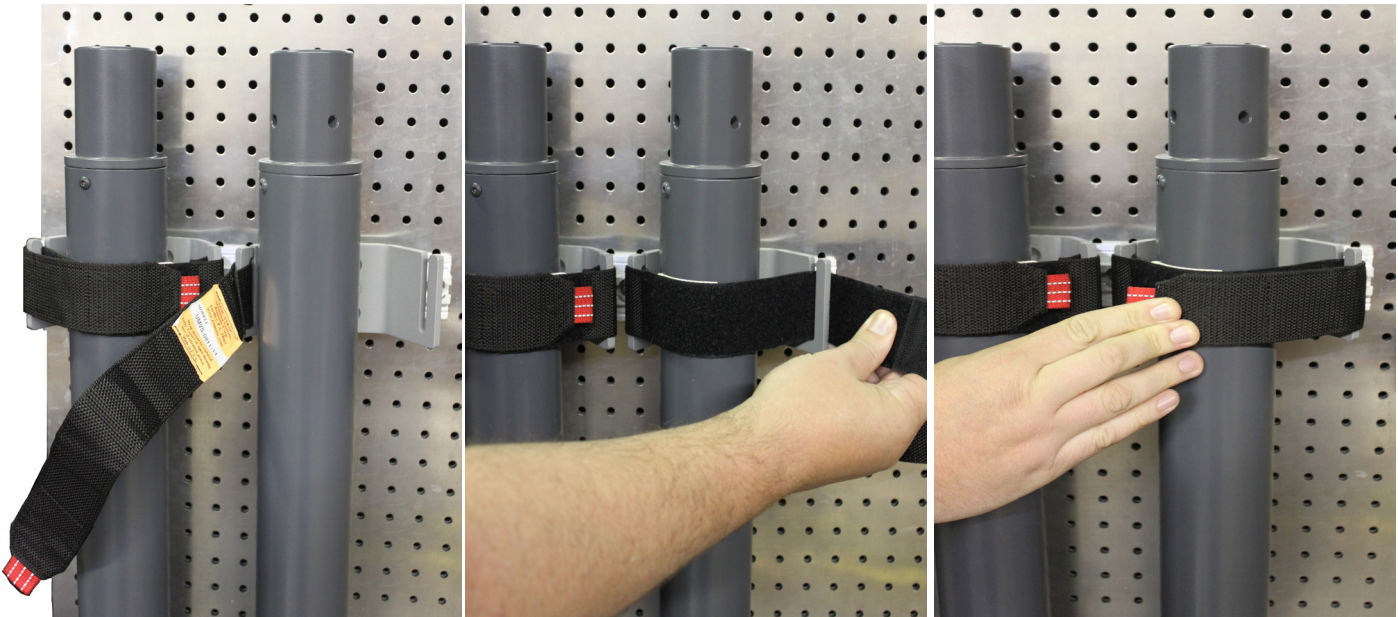

Figure 3
1. Place and hold the equipment against the LH Bracket Strap (2) or RH Bracket Strap (3). See Figure 3
2. Place the Strap (4) around the equipment. Wrap the Strap around the open ended slot of the Bracket. See Figure 3